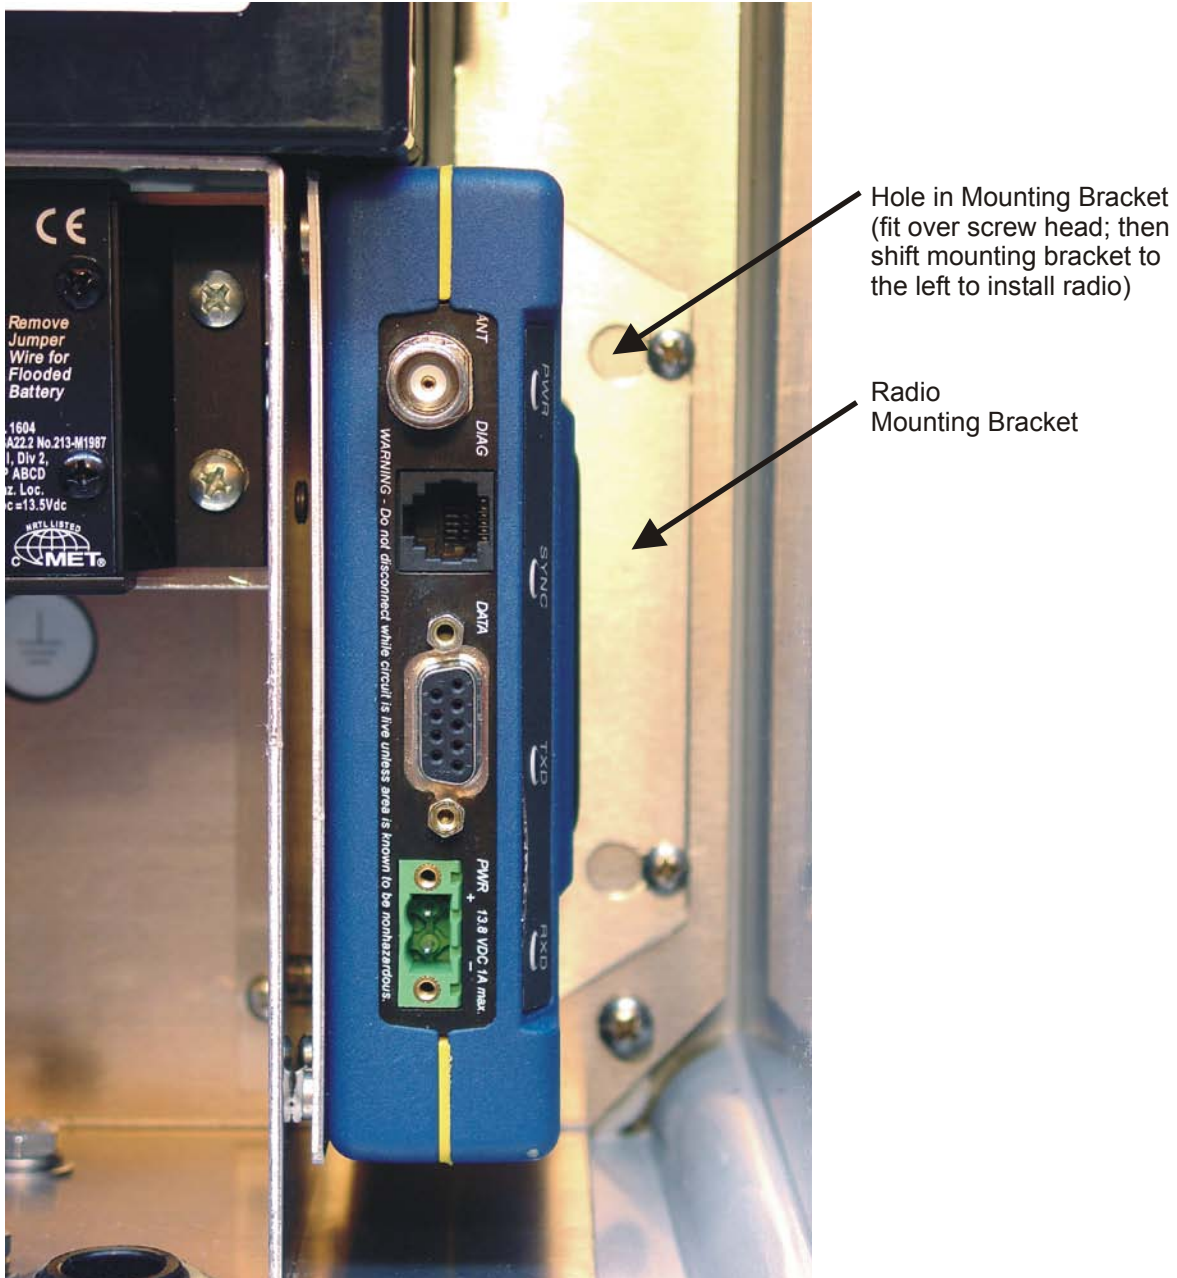

Figure B.1—Radio installation (MDS TransNET radio shown)
- MDS TransNET 900 (Figure B.1, page B-2)
Two versions of the MDS radio are available: a blue aluminum-cased radio (Part No. 9A-99167001, shown in Figure B.1, page B-2) and a black plastic-cased radio (Part No. 9A-99167002). The blue aluminum-cased radio can be mounted directly against the mounting bracket in the Scanner 2200 enclosure. The black plastic-cased radio is designed such that the back side of the circuit board is exposed. To help protect it from contact with the metal bracket, a yellow fiberglass panel is provided, and should be inserted between the radio and the metal bracket.
To install the MDS TransNET 900 radio, follow the procedure below, referring to Figure B.1 as needed:
5. Drop the assembly into the Scanner 2200 enclosure, placing the screw holes over the two screws in the back of the enclosure (Figure B.1, page B-2).